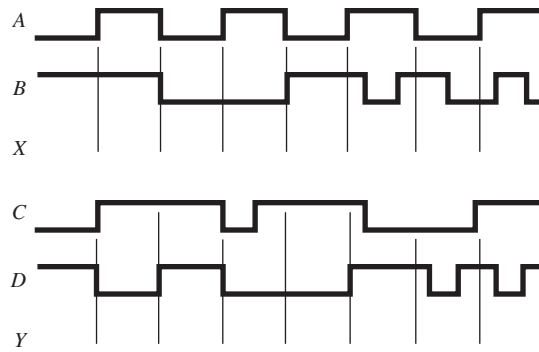

Figure P30
30. Using Figure P28, sketch the output waveforms for X and Y , given the input waveforms shown in Figure P30. ($X = \overline{AB}$, $Y = \overline{CD}$)